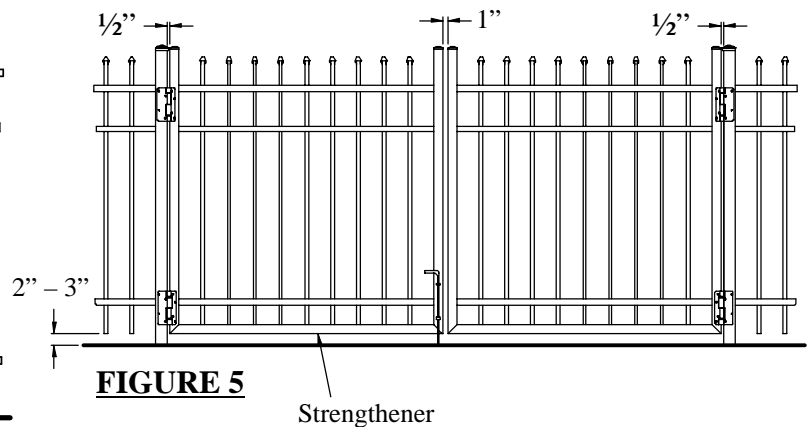

FIGURE 5
- 2.3. For a double drive gate installation set the gate opening 2" wider than the actual width of the two gates. (Example: Two 36" wide gates will actually measure 70" wide overall and will require the opening to be 72" wide.) See Figure 5.